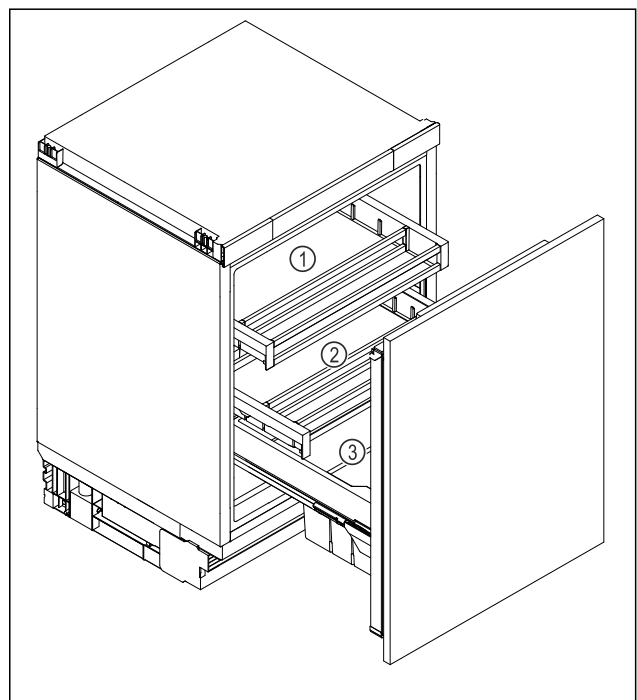

Fig. 6 Example illustration
- ▶ Top drawer Fig. 6 (1): Store butter, cheese, canned food, and tubes.
- ▶ Bottom drawer Fig. 6 (2): Store perishable food, such as pre-cooked meals, fish, fresh meat and lunch meat.
- ▶ Fruit and vegetable box *Fig. 6 (3)*: Store packaged fruit and vegetables.
- ▶ Beverage drawer *Fig. 6 (3)*: Store individual bottles.